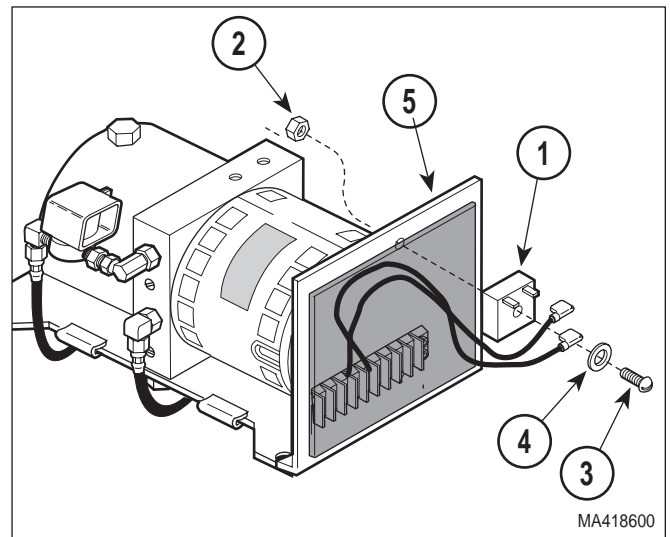

Figure 4-15. Time Delay Relay Removal / Installation
- (1) Unplug table power cord from outlet.
- (2) Remove motor cover assembly (Refer to para 4.2).
- (3) Tag and disconnect electrical leads from the time delay relay (1, Figure 4-15).
- (4) Remove nut (2), screw (3), washer (4), and time delay relay (1) from control panel (5).
- (1) Install time delay relay (1, Figure 4-15) on control panel (5) and secure with washer (4), screw (3), and nut (2).
- (2) Connect electrical leads to the time delay relay (1).
- (3) Install motor cover assembly (Refer to para 4.2).
- (4) Plug table power cord into outlet.